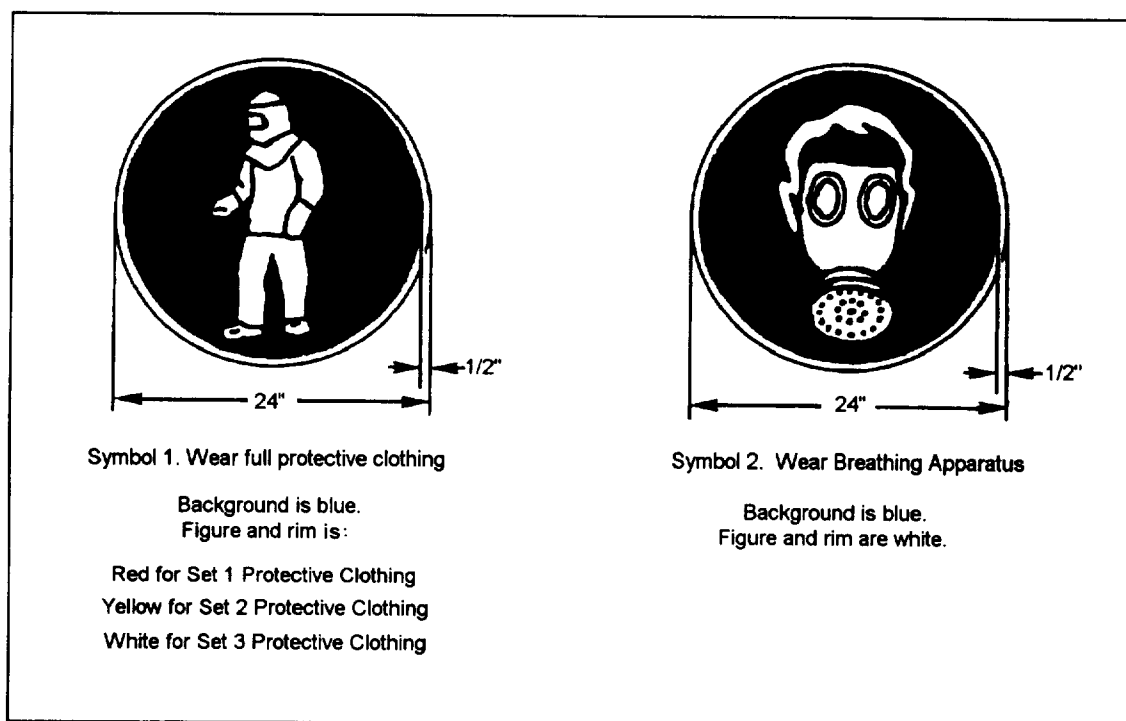

Figure 2-2.—Chemical hazard symbols.
**CHEMICAL HAZARD SYMBOLS.—** Chemical hazard symbols are used to identify operating buildings and storage facilities that contain pyrotechnics and chemical munitions or agents and other hazardous materials. They may be used by themselves or in conjunction with fire symbols, as appropriate. These symbols, shown in figure 2-2, are used specifically for fire-fighting situations and are not necessarily applicable to normal operating conditions. The hazard each symbol